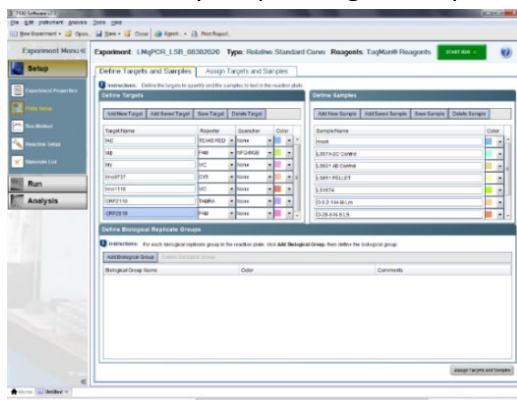

Figure 2. Sample of how to fill out the “Target and Template” Section. Add a sample for each sample analyzed under the “Define Sample” section.
4. In “Plate Setup” input target and probe information as shown in Figure 2.